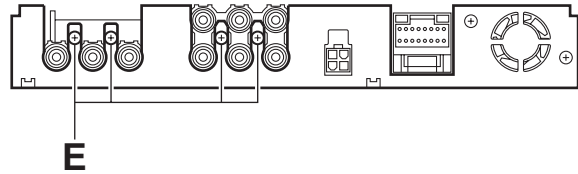

Fig.5
3.5.3 Removing the hideaway board (See Figs.5 and 6)
- (1) From the rear side of the main body, remove the four screws **E** attaching the hideaway board. (See Fig.5.)